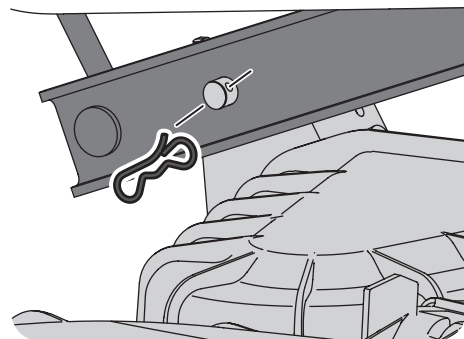

Figure 4-4
- Looking at the deck from the left side of the tractor, locate the bow-tie pin on the rear left side of the deck. See Figure 4-4.
- Remove the pin and slide the deck pin out of the deck lift arm. See Figure 4-4.